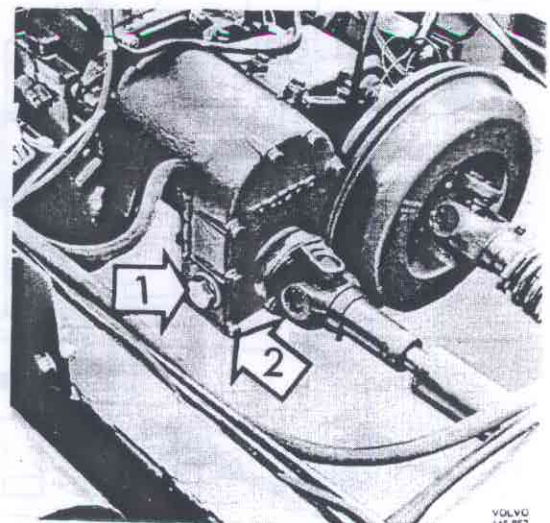

Fig. 48-6. Drain the oil
2. Drain the oil from the power take-off by removing the screw (2, Fig. 48-6).